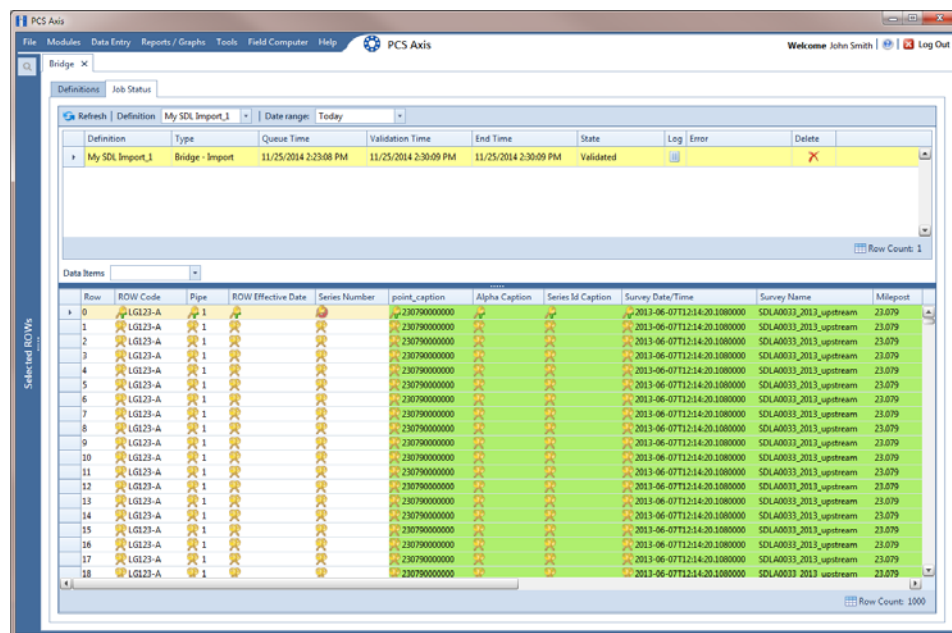

Figure 10-24. Job Status
- 18 To view the status of the Bridge session, click  **Job Status** in the *Definitions* window to open the *Job Status* window (Figure 10-24, page 474). Clicking  **Log** for a Bridge session opens the log file for the selected session.